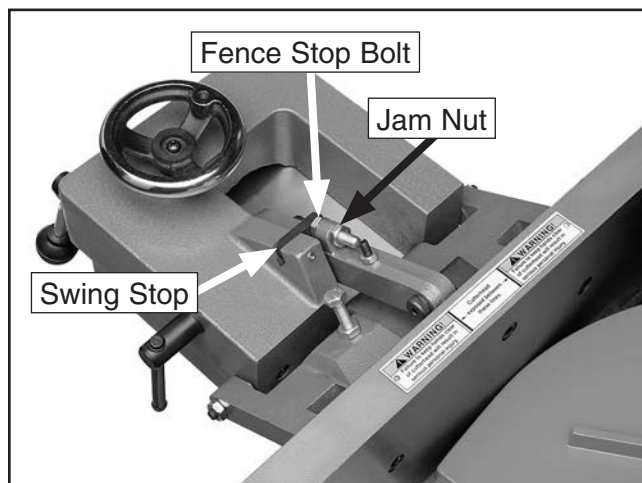

Figure 61. 90° swing stop engaged.
2. Flip the 90° swing stop into the position shown in **Figure 61**.
3. Loosen the jam nut on the 90° fence stop bolt (**Figure 61**).